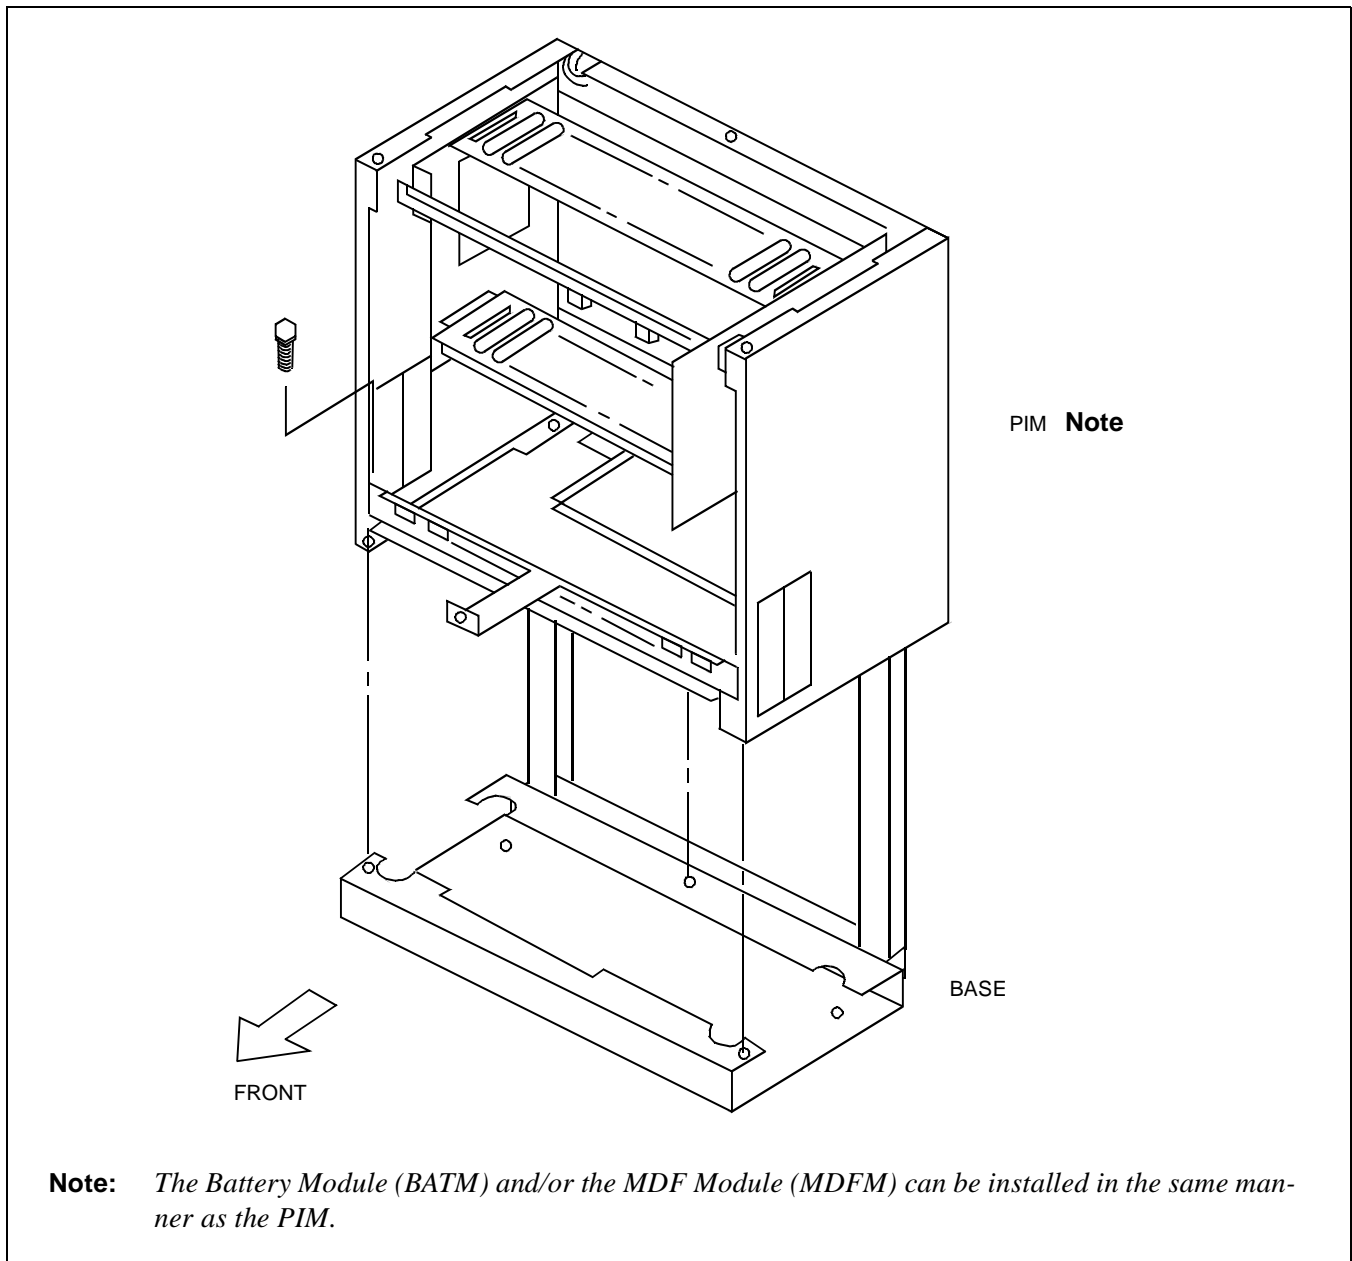

Figure 003-6 Mounting of the PIM
(5) Mount the PIM on the BASE, and connect them together using 3 bolts (provided). Refer to Figure 003-6.